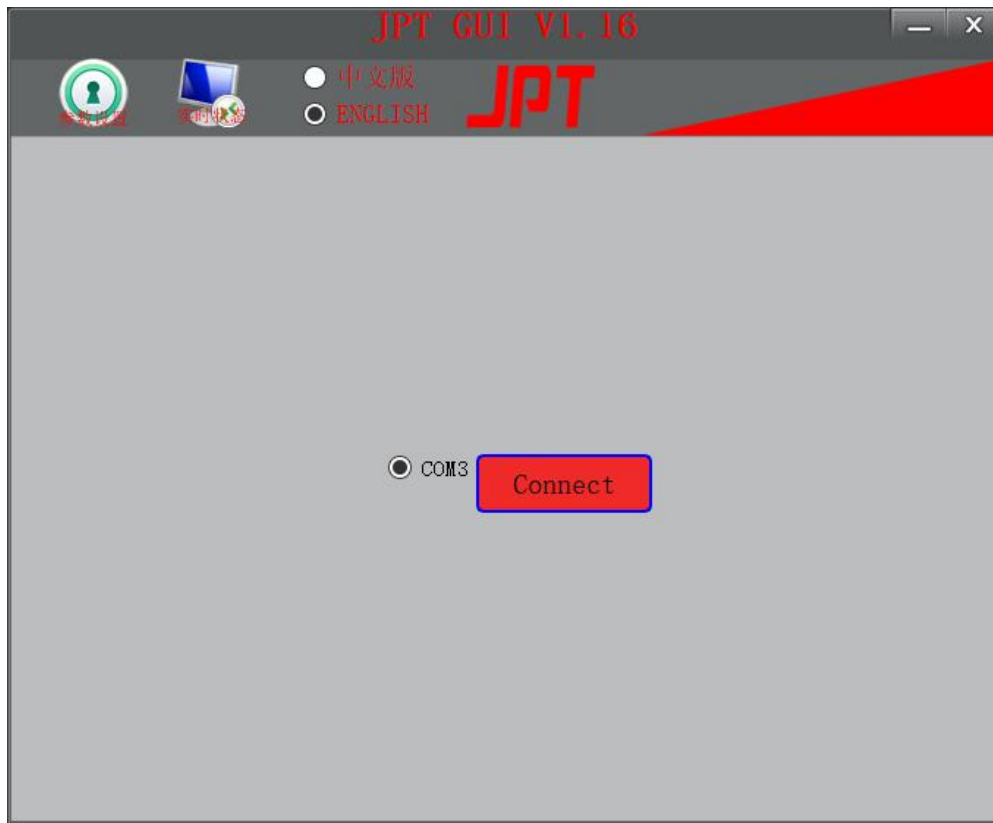

Figure 10
1) Activate JPT.exe program, the interface 1 will display as figure 10.